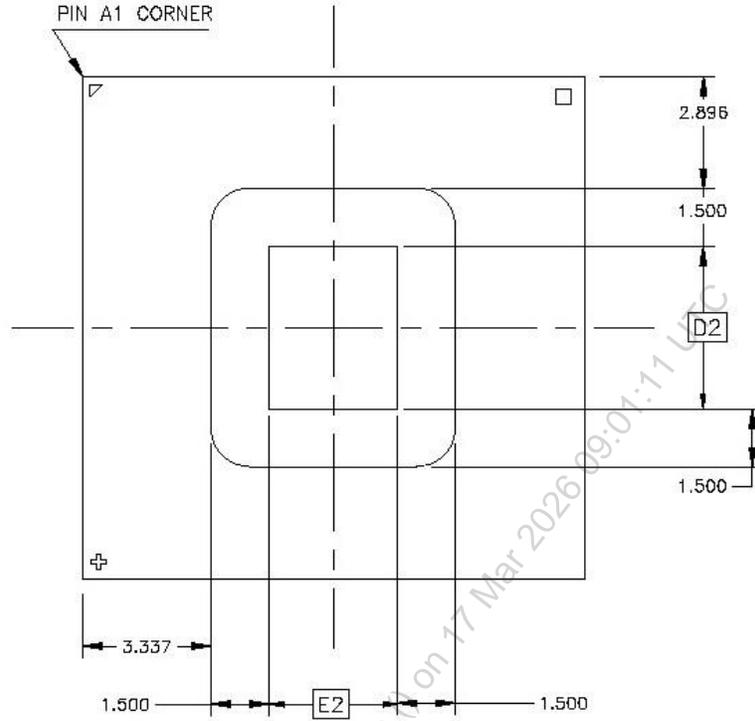
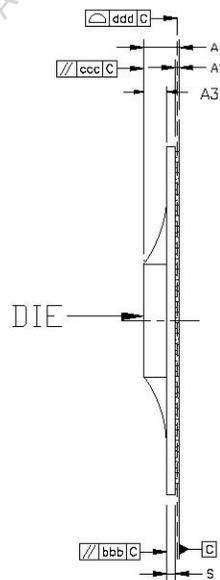

Figure 36. SL1620 Top View
Figure 37. SL1620 Side View
**Note:** The drawings in Figure 36, Figure 37, and Figure 38 are not to scale.